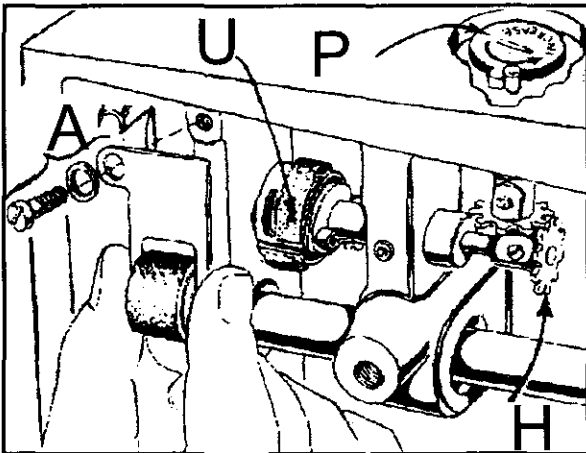

Fig. 25
12. Assemble the hook oil feed roller (A, Fig. 25), and rotate the metering cup so that the roller contacts the metering cup felt at point (U, Fig. 25). Turn the oil control adjusting shaft (P, Fig. 25) in the increase direction until projection stops against the stop in (this is maximum oil supply) and install the cog (H, Fig. 25) on the hook oil control shaft. After meshing the teeth, tighten set screw securely.